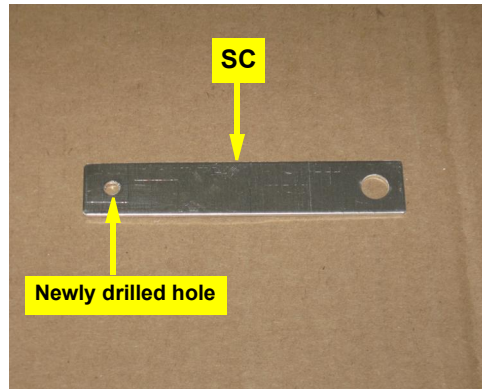

Figure 1a: Newly drilled sensor bracket
- a. Drill a 3/16" hole in the opposite end from the hole already drilled in the aluminum bracket SC (Figure 1a).